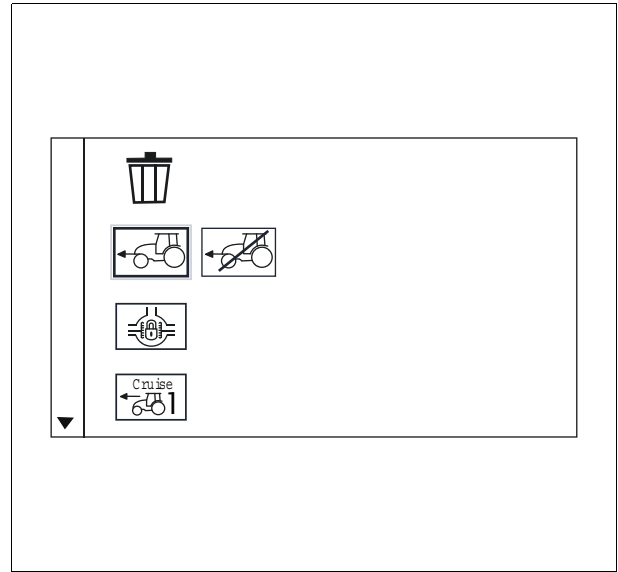

Fig. 8.
1. Bring up the program modification view *fig. 8*.